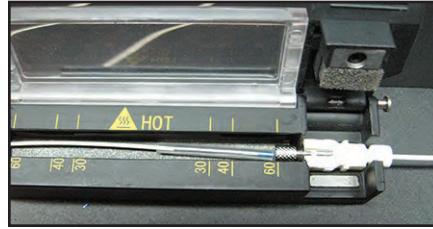

Figure 7
8. Transfer the splice to the splice sleeve heat oven on the right-hand side (Figure 7). Verify the position of the splice sleeve is butted up against the metal portion of the splice-on connector. Use the 60 mm heater mode #1 with center and edges activated. Press the **HEAT** button to run the shrink cycle.